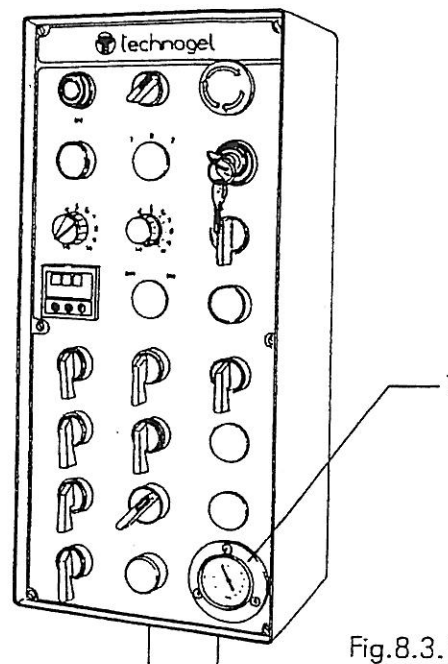
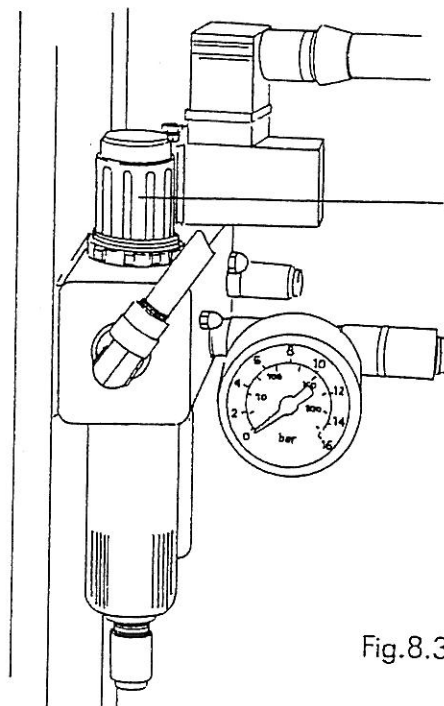

Fig.8.3.1
Fig.8.3.2
- the pressure indicated on the pressure gauge located on the control panel 1 Fig. 8.3.1 must be between 6 and 7 bar. If the pressure gauge does not indicate this, regulate pressure using handwheel 1 Fig. 8.3.2 until pressure falls within the required values.